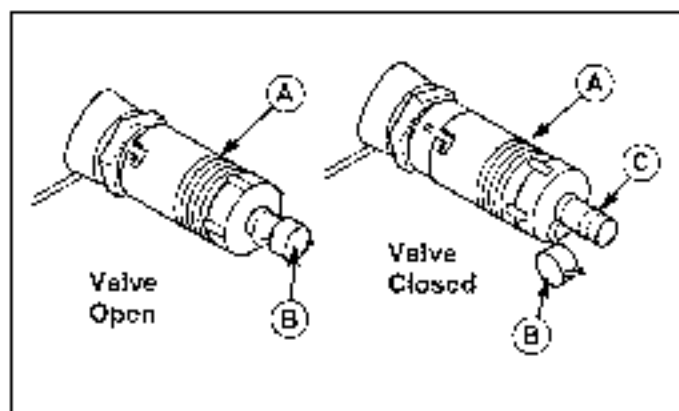

Figure 17. Oil Drain Valve
2. Loosen or remove the dip stick (A).
3. Wipe oil drain valve (A, Figure 17) and cover (B) with paper towel or rag.
6. Wipe the nipple (C) with paper towel or rag, install the cover (B) over nipple (C).